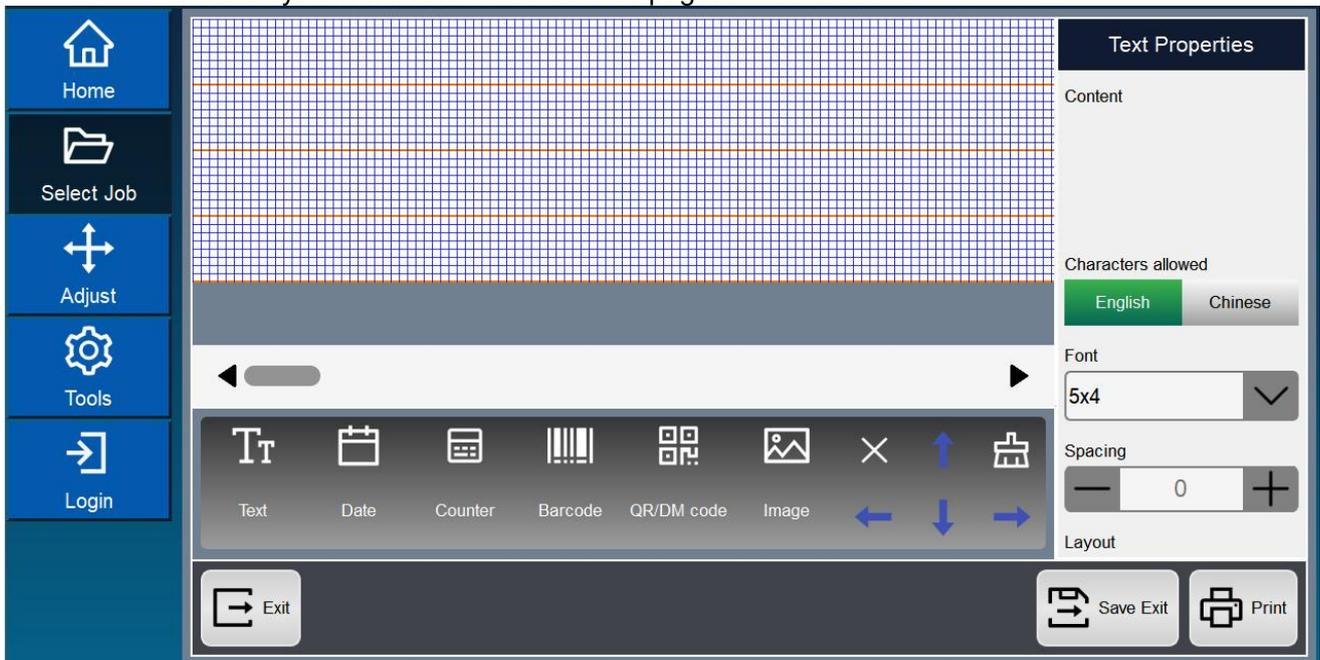

Figure 3-3 File editing interface
③After entering the file name, click , and enter the file editing interface, as shown in Figure 3-3.